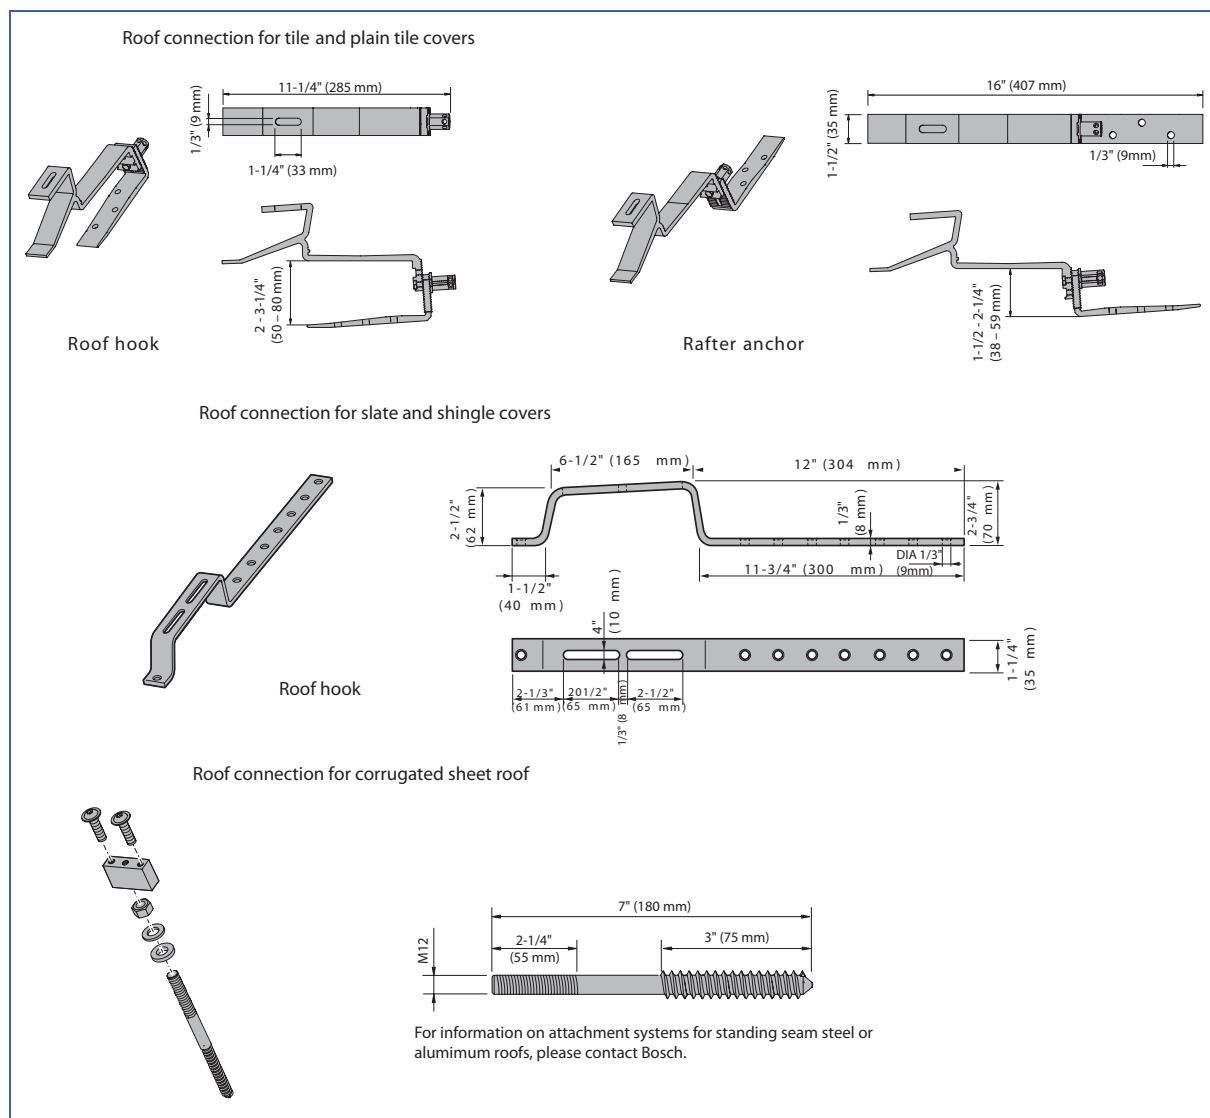
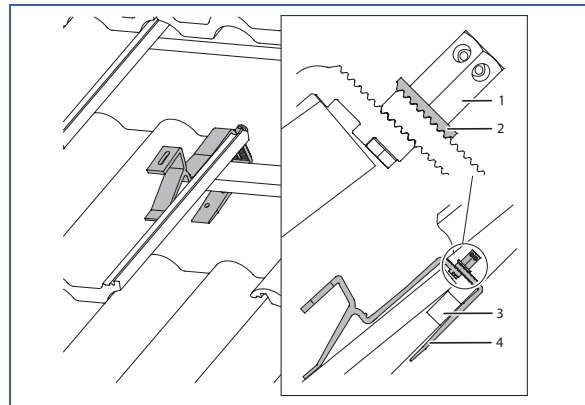

Figure 74 Roof connection versions for different roof covers (dimensions in inches (mm))
Figure 76 Installed roof jack
The rooftop installation kit for Bosch FKC-1 and FKB-1 flat-plate collectors consists of a standard kit for the first collector in a row and an extension kit for each additional collector in the same row (Figure 74). Use the rooftop installation extension kit only in conjunction with a standard kit. In place of the single-side collector clamps (item 1 Figure 75) the extension kit contains so-called double-sided collector clamps (item 5 Figure 75) and connectors for defining the correct spacing and securing two adjacent Bosch FKC-1 or FKB-1 flat-plate collectors.
The profile rails and collector tensioners of the various rooftop installation kits are identical for all roof connections. The various installation kits for tile and plain tile, slate and shingle cover as well as for corrugated sheet and sheet steel roofs only differ with regard to the type of roof hook (Figure 74) or special attachment materials used (Figure 75).
Figure 75 shows an example for a rooftop installation on a tile roof. On roofs with simple battens, the roof jacks are fastened to the sheathing (Figure 76). This is done by turning the lower part of the roof jack over. If additional height compensation is needed, the lower section of the roof jack can be shimmed up. On roofs with counter battens, the roof jacks (Figure 74) are hooked over the existing roof battens (Figure 76) and fastened to the profile rails.
Legend (Figure 76)